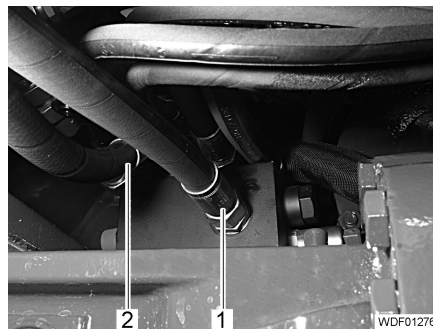

Fig. 239 Hydraulic lines
- Unscrew and close off the 2 hydraulic lines (Fig. 239,1 and 2).